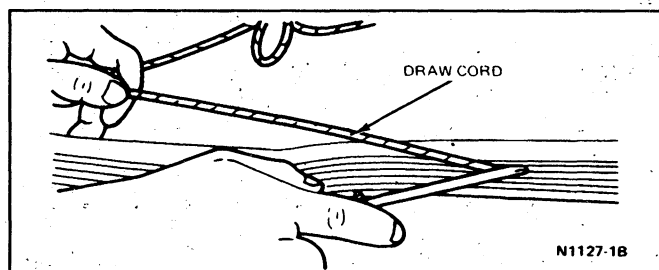

FIG. 2 Draw Cord Installation—Typical
2. Install a draw cord all around the weatherstrip in the flange crevice (Fig. 2), allowing the cord to overlap at the bottom center of the glass. Coat the weatherstrip mounting surface with Rubber Lubricant D9AZ-19583-A or equivalent.
5. Install a draw cord all around the weatherstrip in the flange crevice (Fig. 2). Let the draw cord overlap at the bottom center approximately 457mm (18 inches) and tape the ends of the draw cord to the inside of the glass. Apply Rubber Lubricant